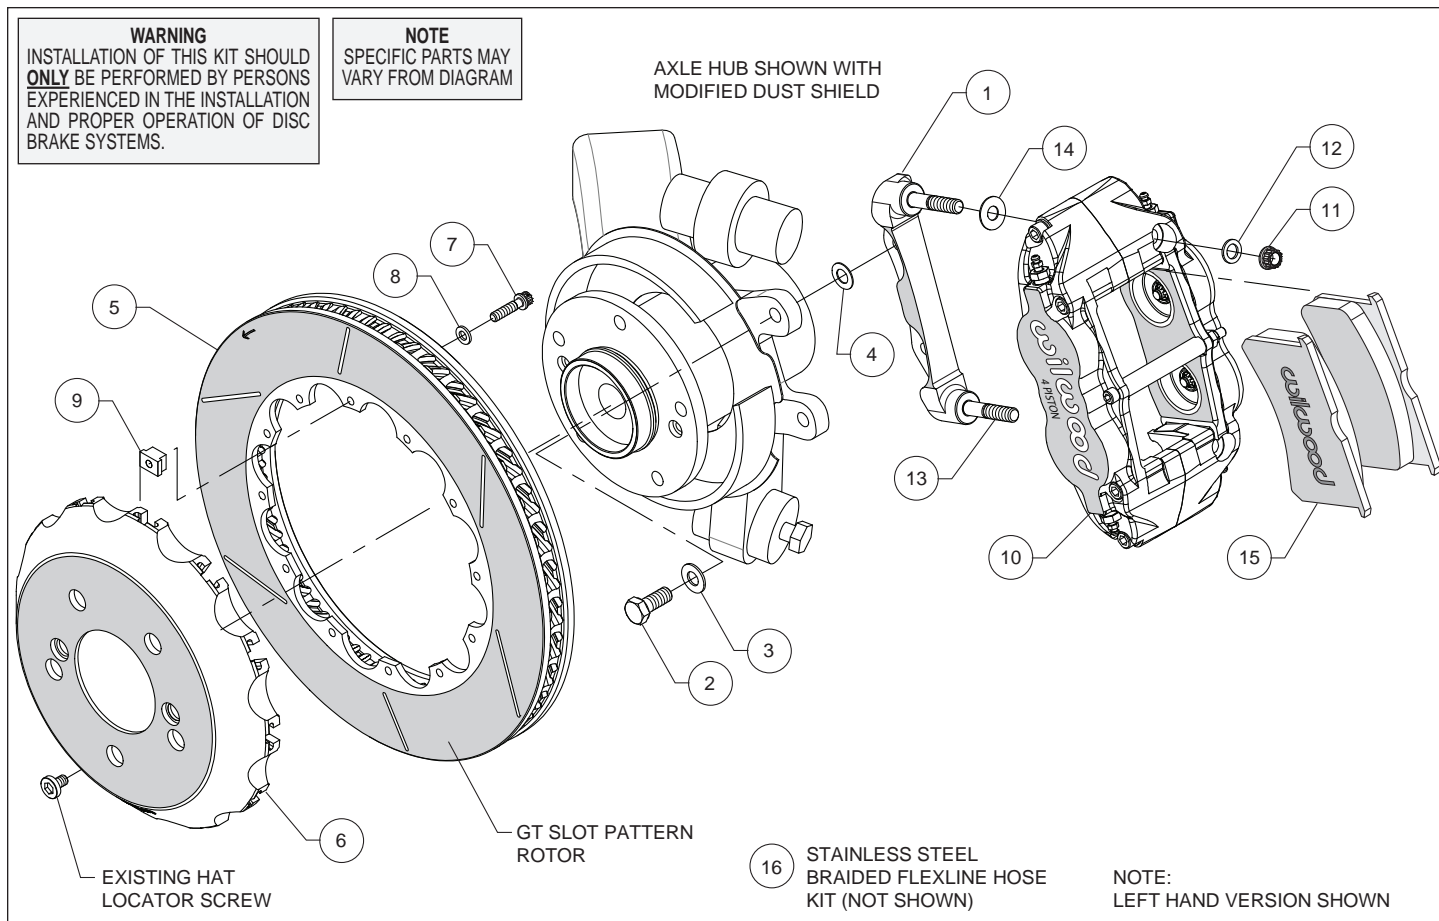
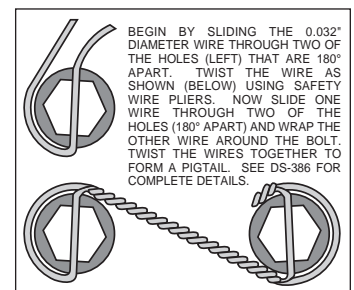

Figure 1. Typical Installation Configuration
Figure 3. Safety Wire Diagram
Assembly Instructions (numbers in parenthesis refer to the parts list and Figure 1 on the preceding pages):
- The caliper mount bracket (1) should initially be installed with clean, dry threads on the mounting bolts. Orient the bracket as shown in Figure 1 and Photo 3, and install using bolts (2) and washers (3). Initially place one .030 thick shim (4) on each bolt between the bracket and upright, Figure 1. Temporarily tighten the mounting bolts. **NOTE:** The bracket must fit squarely against the mounting points on the upright. Inspect for interference from casting irregularities, machining ridges, burrs, etc. Later, after the caliper alignment has been checked, the mount bolts will be secured using red *Loctite*® 271.
- Orient the rotor (5) and the hat (6) as shown in Figure 1 and Photo 4. Attach rotor to hat using bolts (7), washers (8), and t-nuts (9). Follow additional instructions included with the bolt kit. Using an alternating sequence, apply red *Loctite*® 271 to the threads, and torque to 120 in-lbs. Safety wire bolts using standard 0.032 inch diameter stainless steel safety wire as shown in Figure 3. Please refer to Wilwood's data sheet DS-386 (available at www.wilwood.com/Pdf/DataSheets/ds386.pdf) for complete safety wire installation instructions.
- Lubricate the caliper mounting studs (13) with lightweight oil. Initially place one .035" thick shim (14) on each stud as shown in Figure 1 and Photo 6. Mount the caliper (10) onto the bracket (1) using lock nuts (11) and washers (12), Figure 1. Temporarily tighten the lock nuts and view the rotor through the top opening of the caliper. The rotor should be centered in the caliper, Photo 7. If not, adjust by adding or subtracting shims (4) between the bracket and the mounting bosses. Always use the same amount of shims on each of the two mounting bolts. Once the caliper alignment is correct, remove the bracket mounting bolts (2) one at a time, apply red *Loctite*® 271 to the threads, and torque to 35 ft-lb.